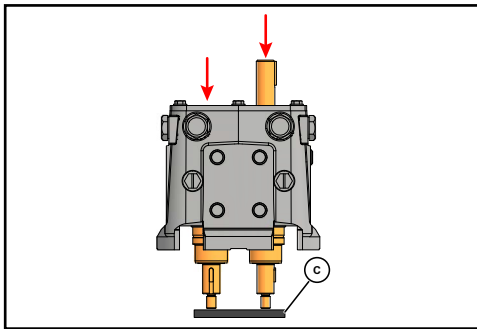

Figure 48 - Press Shafts from Gear Case
6. Place the gear case on an arbor press with the liquid end facing down. Protect the shaft ends with a wood or plastic block (Figure 48, item C) and press the shafts out of the gear case.